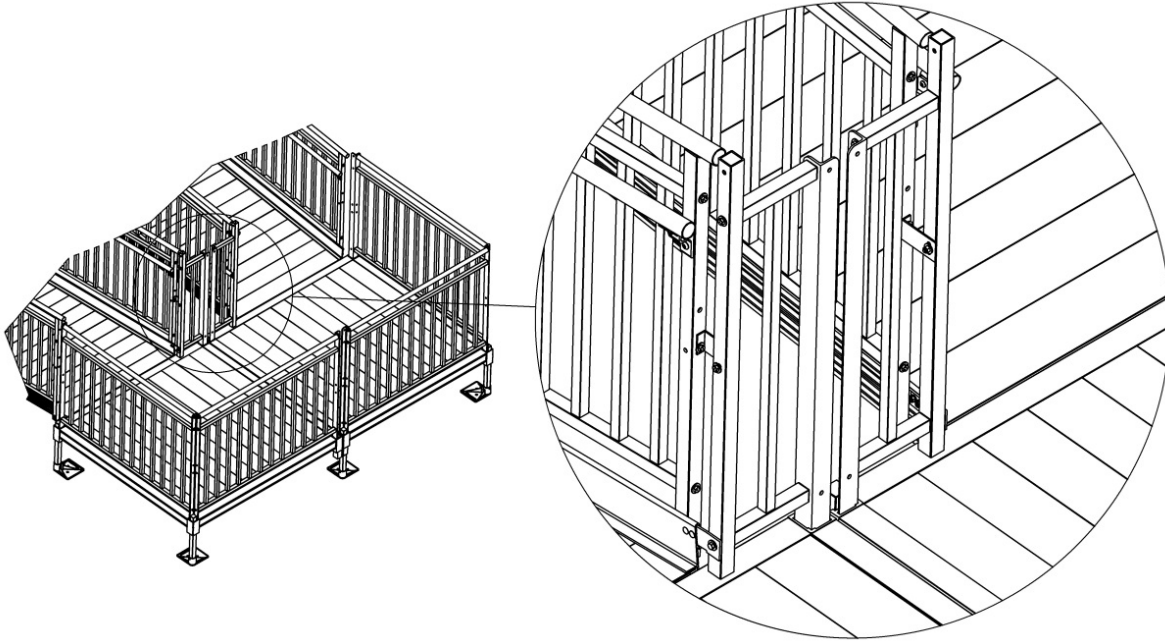

FIG. 5.30
5.7.3. The 1-1/2" square x 42-7/16" long closure posts, barrier attachment plates, and closure brackets are all installed at a guarded turn back in the same manner shown in the 'PICKETED GUARD CLOSURE' section except that the spacer between the closure posts and the barrier attachment plates is not used. FIG. 5.30 shows the components installed.